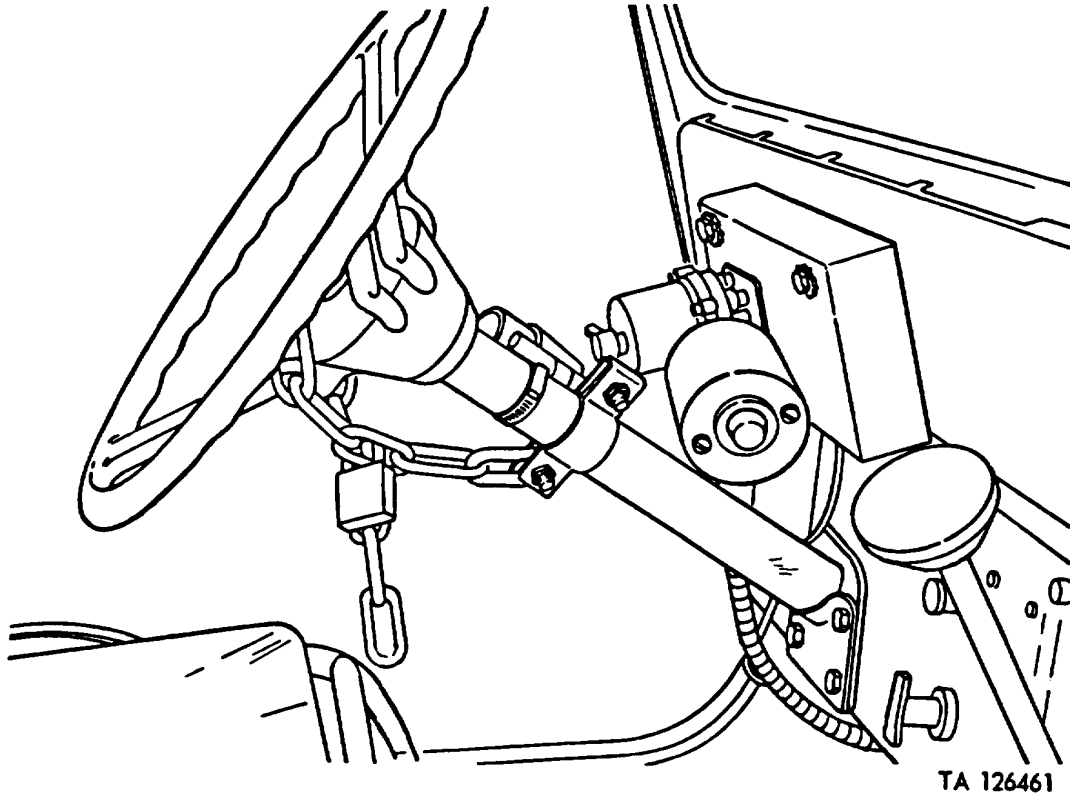

Figure 2. Typical Clamp and Chain, Installed.
a. A clamp is to be mounted on the steering column (Fig. 2), as clearance will allow. One end of the chain is to be retained by one screw, after which the clamp is to be positioned for maximum operator knee clearance, and tightened securely.